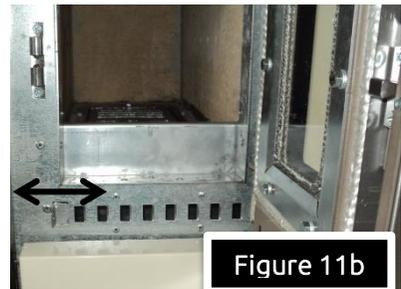

Figure 11b
***NOTE:** some cooker models have the manual regulation type like in Figure 11b!*